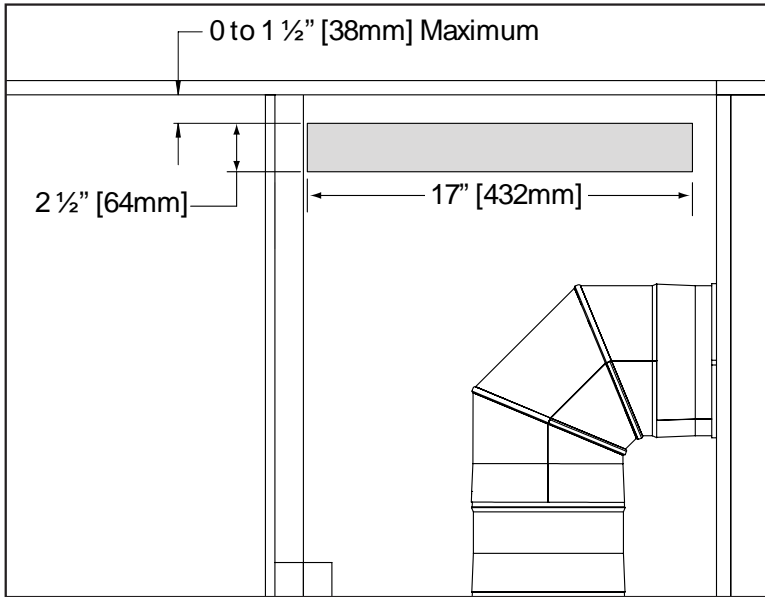
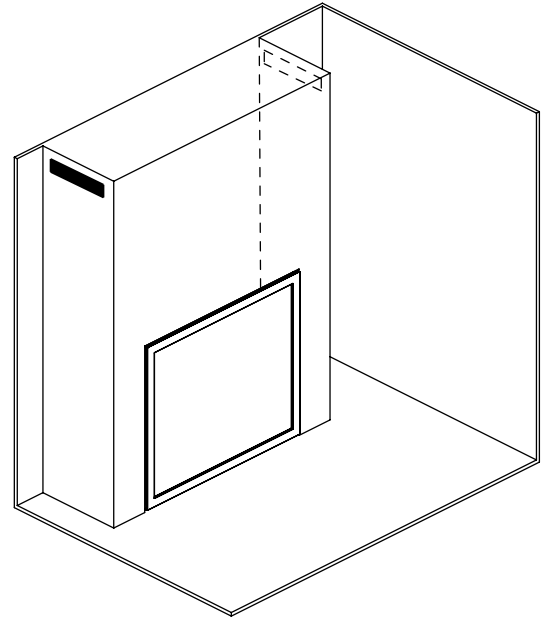

Figure 40: Option 3 Side Discharge
Figure 41: Side Discharge Iso View
**Option 3: Side Discharge (built-out installations)** - Construct the framing in a way that provides a minimum 17 inch (432mm) by 2½ inch (64mm) opening on each side of the chase. The top of the opening must be 1 ½" from the top of the chase (see Figure 40 & Figure 41)